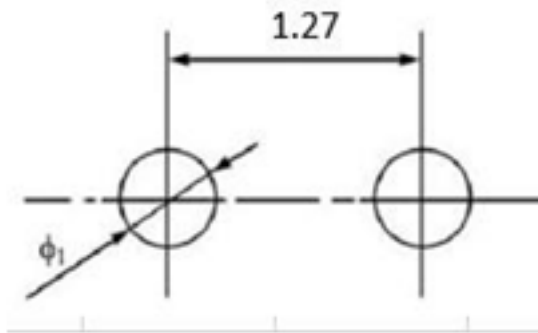

Figure 7
3. The center distance between two adjacent test points is at least 1.27 mm and recommended to be 2.54 mm or more, as shown in Figure 7.